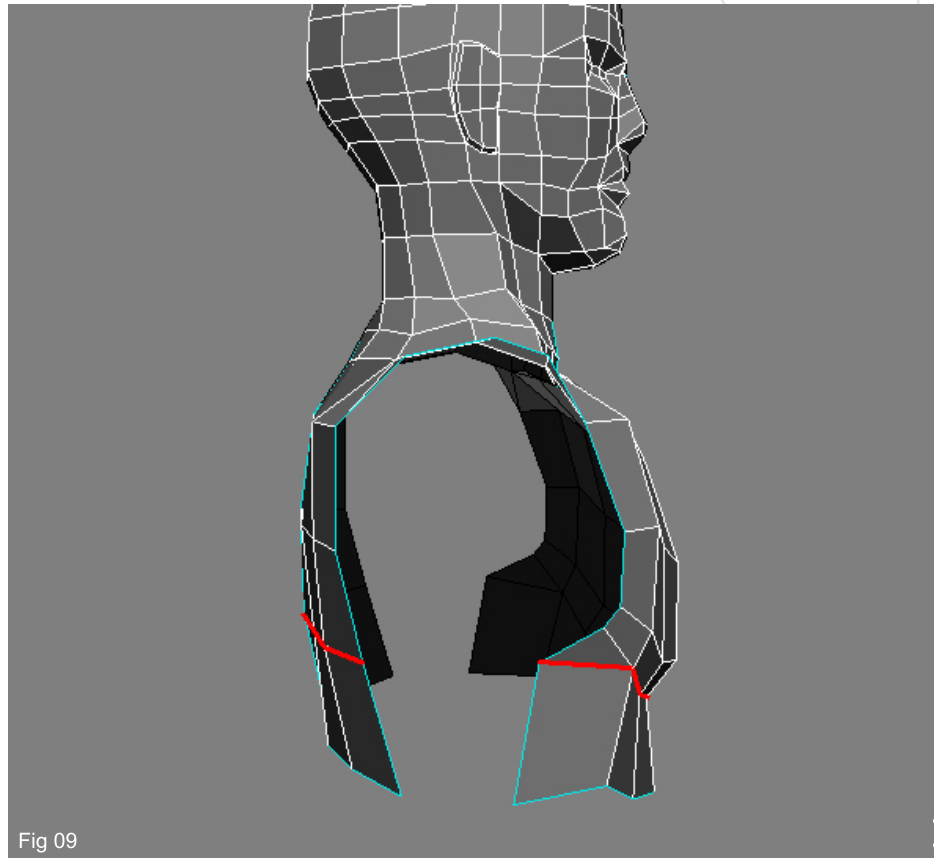

Fig 09
9. Looking at Fig09 (side view of the model) you can notice the shape that the arm will have once it will be extruded from the shoulder. But before we can proceed with the arm, we need to create one more extrusion for the front and back part of the chest.